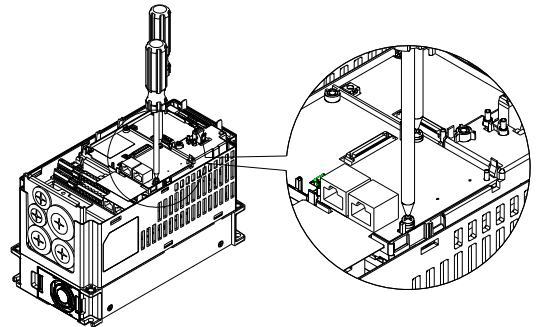

Figure 3
- Crew up at torque 6~8 kg-cm [5.2~6.9 lb-in.] [0.59~0.78 Nm ] after the PCB is clipped with the holes (see Figure3) .